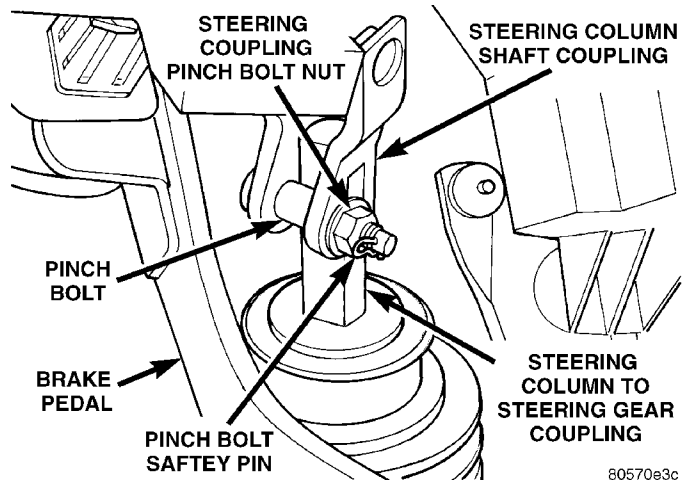

Fig. 3 Steering Column To Coupling Attachment
(1) Remove the pinch bolt safety pin from the steering column shaft coupling pinch bolt (Fig. 3).
(2) Loosen the coupling pinch bolt retaining nut and remove pinch bolt (Fig. 3) from steering coupler. **(Pinch bolt nut is caged to coupler and is not removable.)** Then separate the steering column shaft coupling from the steering column to steering gear coupling.
(6) Ensure front wheels of vehicle are positioned straight-ahead and then align and attach steering column to steering coupling (Fig. 3). Install the coupling pinch bolt (Fig. 3). Tighten the pinch bolt nut to a torque of 28 N·m (250 in. lbs.). **Be sure to install upper to lower steering coupling pinch bolt safety pin (Fig. 3).**